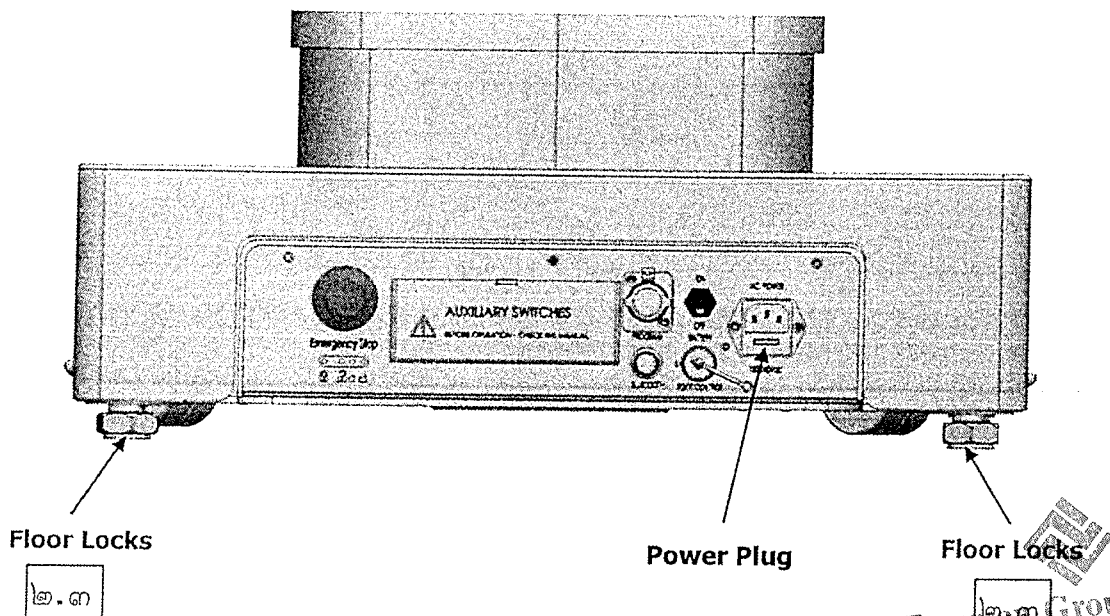

Figure 4-5
4. Ensure the floor locks (Figure 4-5) are tightly against the floor. If not, use a wrench to adjust the floor lock until the table base is tightly against the floor.
5. Plug power cord into appropriate socket on the table base (Figure 4-5)